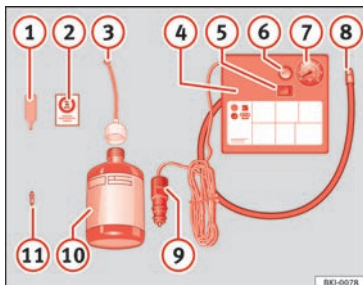

Fig. 104 Standard representation: contents of the anti-puncture kit.
The anti-puncture kit is located underneath the floor covering in the luggage compartment. It includes the following components » **Fig. 104:**
Screw in the inflator tube » **Fig. 104 ⑧** again and check the pressure on the gauge ⑦.